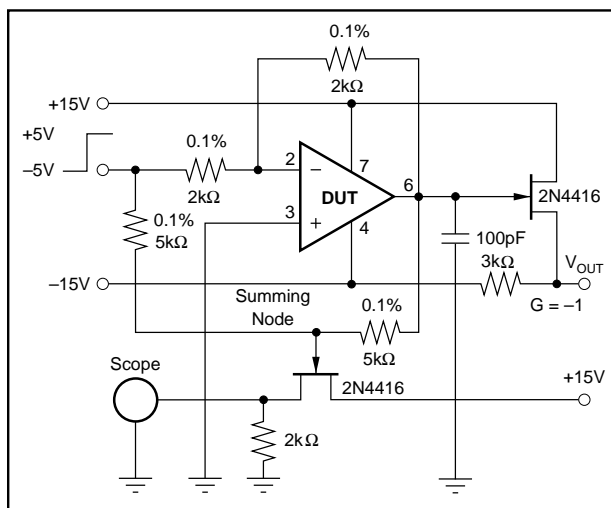

FIGURE 2. Settling Time Test Circuit.
NOTES: (1) See settling time test circuit in Figure 2. (2) Offset voltage, offset current, and bias current are measured with the units fully warmed up. (3) Sample tested—this parameter is guaranteed on L grade only.